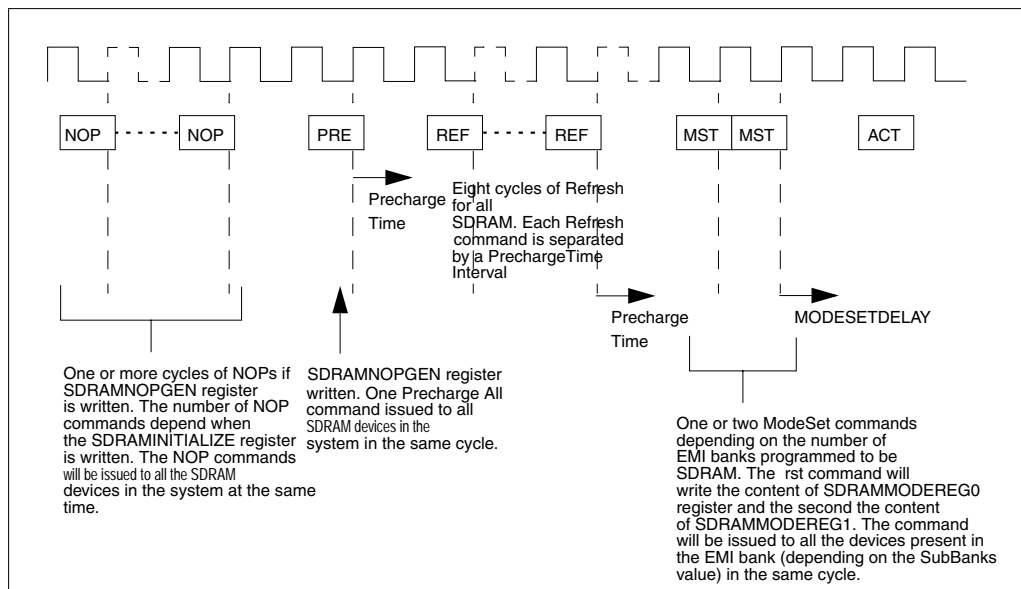

Figure 41: SDRAM and DRAM initialization
- 2 Once the SDRAMINIT register is written to, and an SDRAM bank has been configured all SDRAM banks are precharged using the PRECHARGE ALL command. Eight refresh cycles are completed. Any SDRAM in the system is refreshed at the same time, as shown in Figure 41.